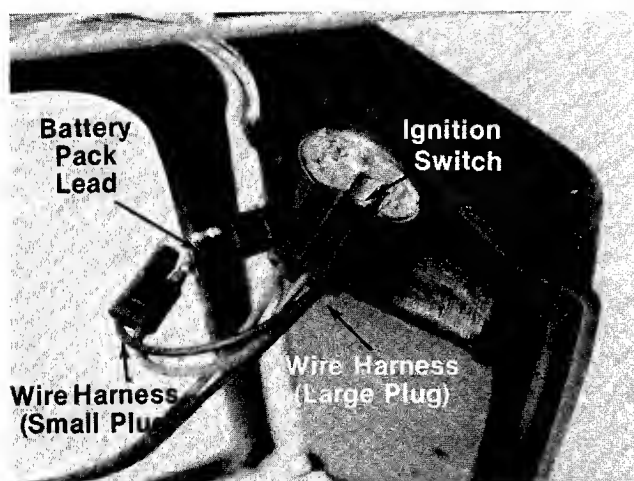

FIGURE 5.
6. Plug the large plug on the wire harness into the ignition switch. Plug the small plug on the wire harness into the battery pack lead. See figure 5.